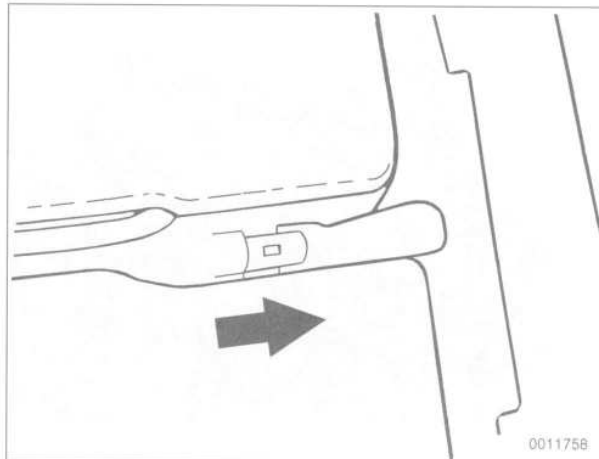

Fig. 21. Push backrest lock in direction of arrow and lift out backrest.
4. Unlock backrest and remove upwards. See Fig. 21.